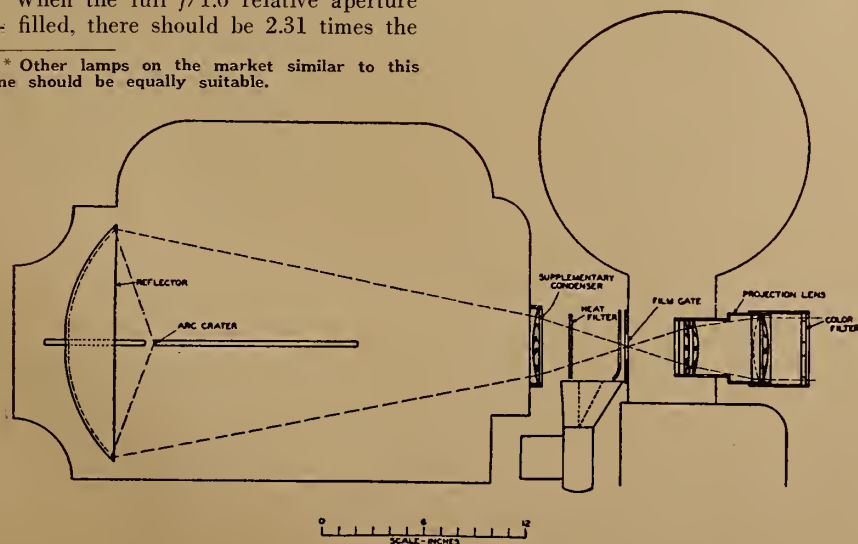

FIGURE 2
**Illuminating Systems.**—Before the increased relative aperture could be fully realized, it was necessary to modify the existing illuminating system so as to fill an angle of  $f/1.6$  and at the same time to fulfil the conditions necessary for use with lenticular films. The lamp selected for the first experiments was the Peerless Magnarc,\* which appeared to be a good example of a high-efficiency reflector system. After a number of optical arrangements had been tried, using reflectors of various focal lengths, it was apparent that the only change necessary was the addition of an inexpensive condenser lens at the front of the lamp house. To avoid breakage due to the extreme heat, this lens was made of pyrex. The complete optical arrangement as it was finally used is shown in Fig. 2, which is drawn approximately to scale.